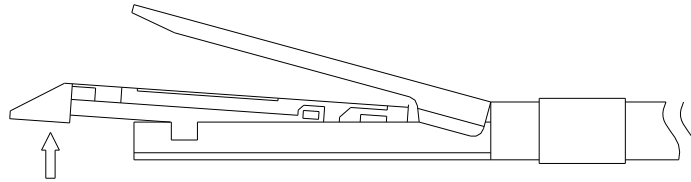

Figure 3-18
- 3) Push the cartridge upward (towards the anvil) to unsnap it from the cartridge jaw. Remove and discard the used cartridge (Figure 3-18).